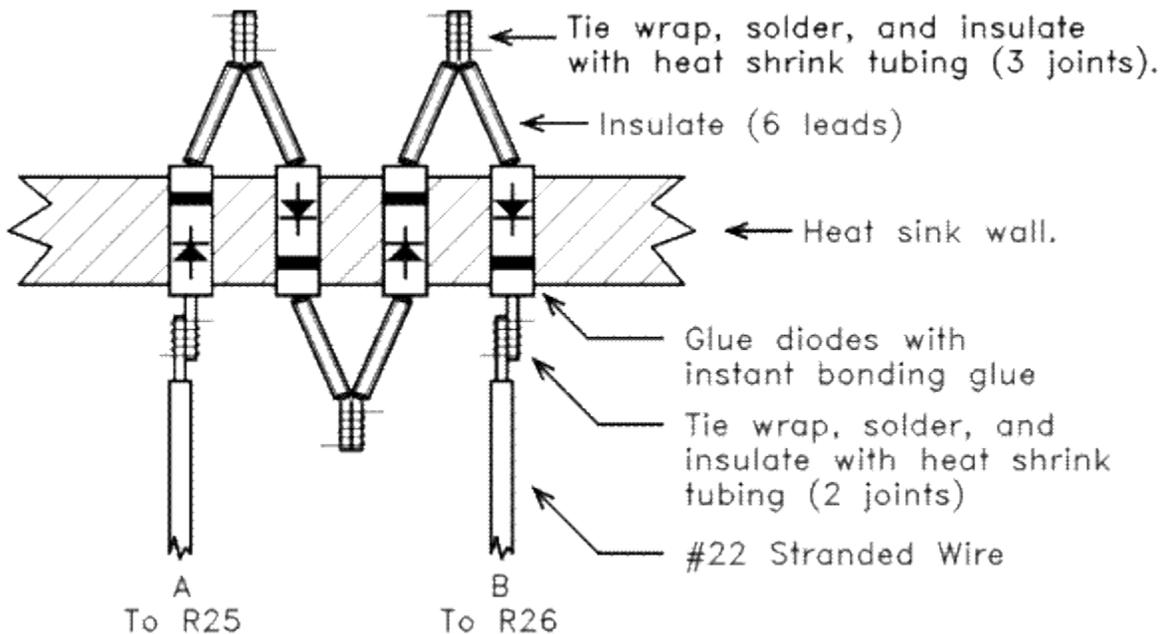

Figure 6. View of diodes in heat sink wall.
“You should be careful when you assemble and install the bias diodes. If a diode is forced into a hole in the heat sink that is too small, its case can crack. I once saw a student's amplifier that randomly blew power supply fuses. We traced the problem to a cracked diode. He was lucky that the power transistors didn't blow. Figure 6 illustrates the installation of the diodes in the heat sink walls. There are 6 bent leads which must be insulated with insulation removed from hookup wire before being bent. There are 5 joints which must be tie wrapped, soldered, and insulated with heat shrink tubing. The diodes are glued into the heat sink with instant bonding glue. Do not use the gel version of this glue. It does not flow and will end up on the outside of the heat sink.
- *Bend the 6 insulated diode leads as shown in Figure 6 so that they are at an angle of approximately 45 degrees with the heat sink wall. Bend the ends of the leads so that they are parallel as shown in the figure. Tie wrap the parallel leads together with a spiral wrapped single strand from #22 stranded hookup wire. Two needle nose pliers make this tedious operation simpler. Solder the wrapped wires.*